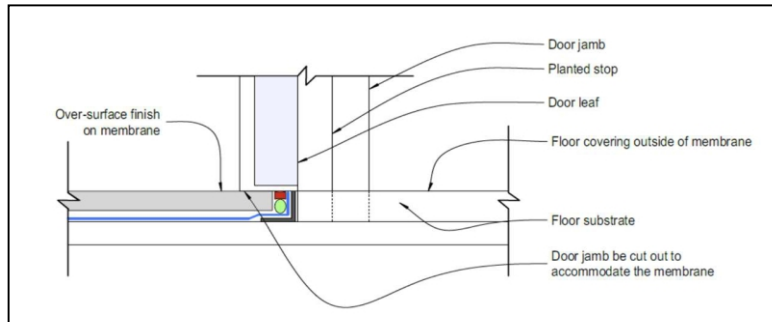

Figure 20: Face of door jamb with water-stop under door
- ◆ Figure 20: Face of door jamb with water-stop under door